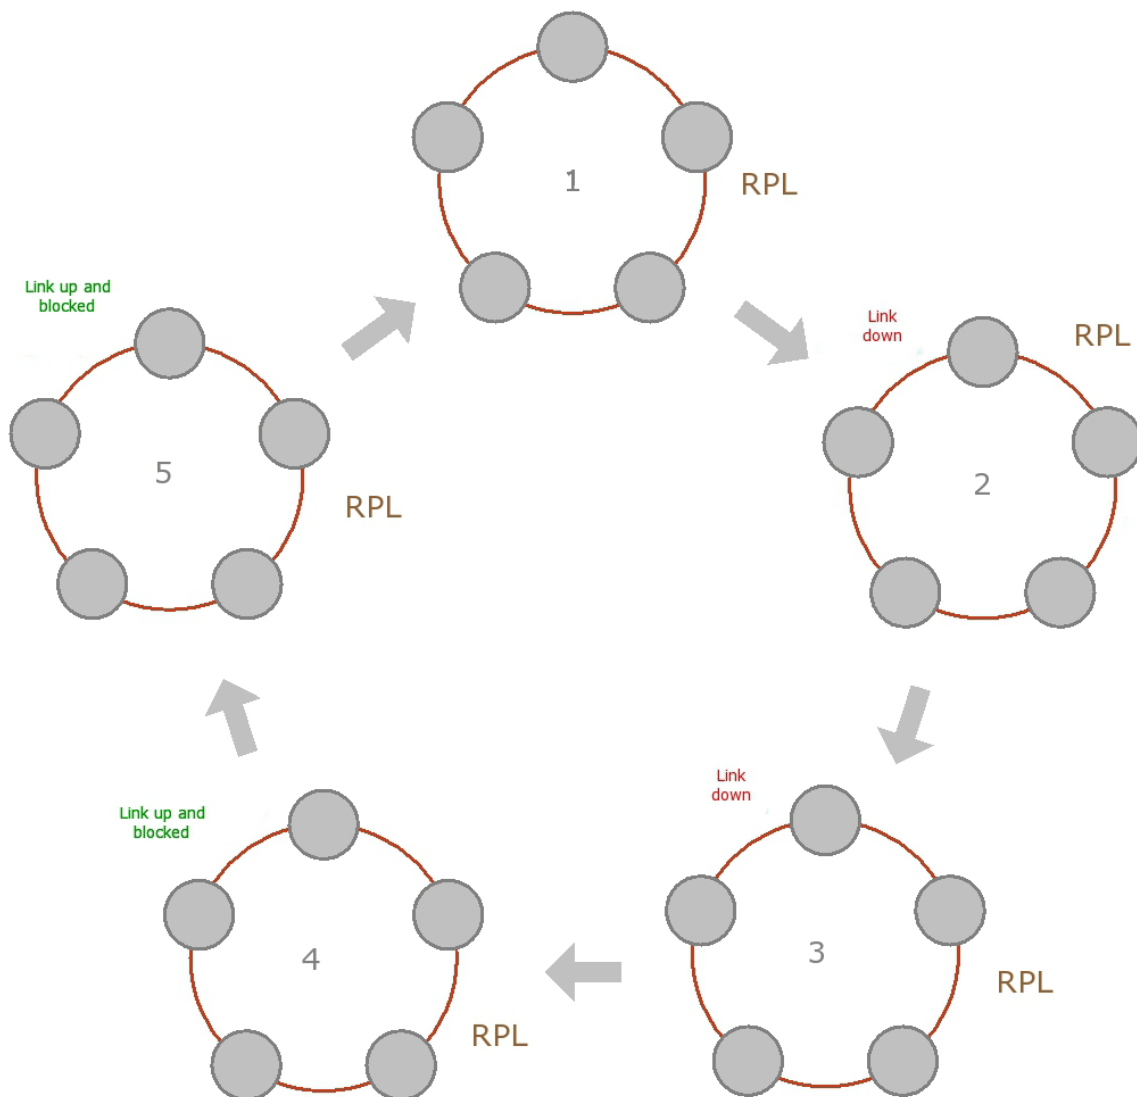

Figure 16-1: Ring Protection mechanism
The steps below follow the numbering in Figure 16-1:
- Under a ring configuration a NetStream Ring Link that was down and commences recovery, keeps blocking Ethernet traffic. The RPL identifies this situation, blocks itself and then unblocks the other Ring Link. This is the transition from step 4 to 5 in Figure 16-1.